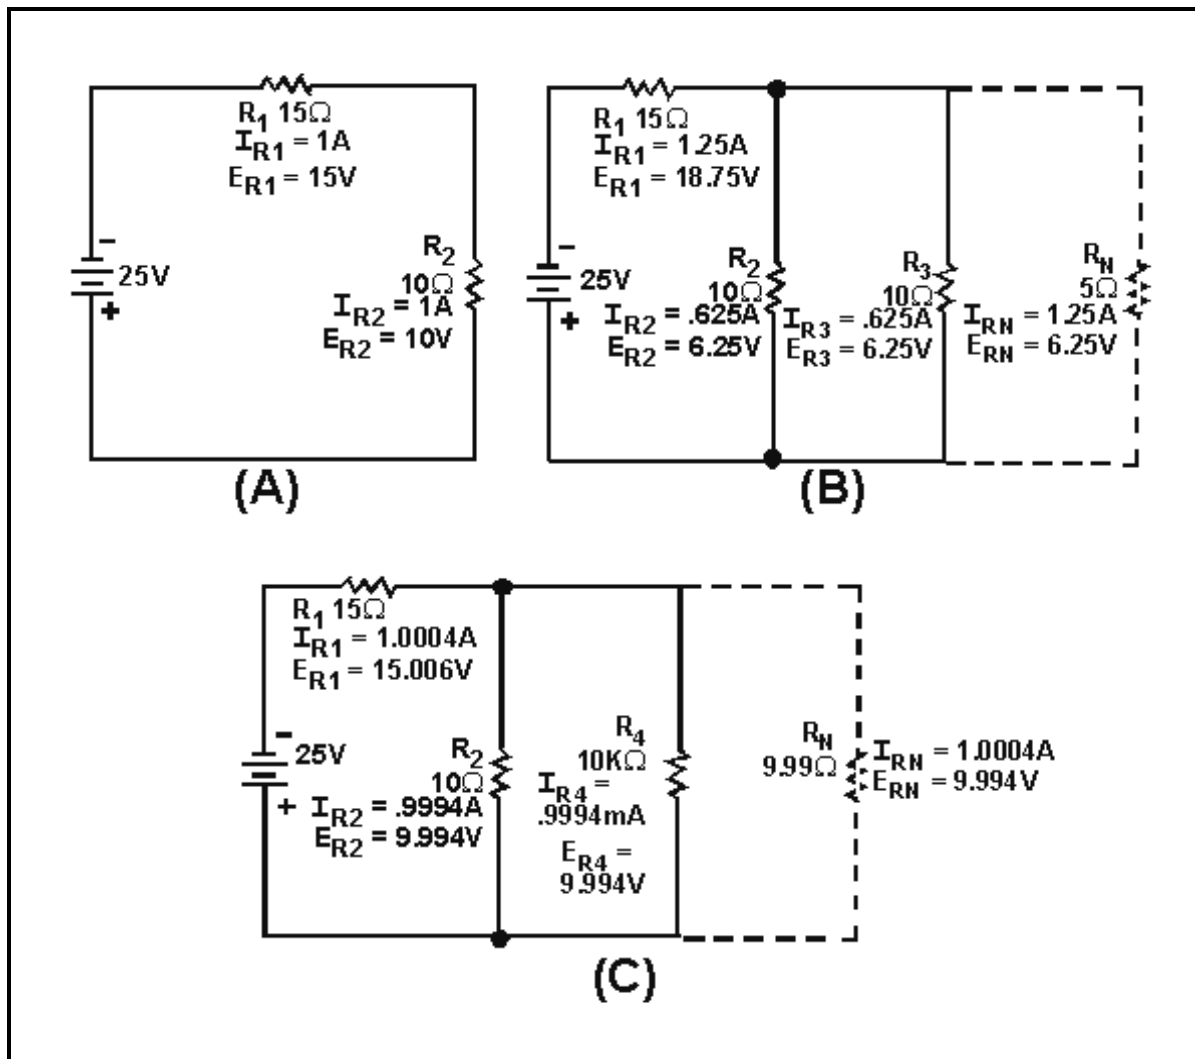

Figure 1-26.—The loading effect.
A voltmeter has an effect on the circuit being measured. This is called **LOADING** the circuit. Figure 1-26 illustrates the loading effect and the way in which the loading effect is kept to a minimum.
In figure 1-26(A), a series circuit is shown with  $R_1$  equaling 15 ohms and  $R_2$  equaling 10 ohms. The voltage across  $R_2$  ( $E_{R2}$ ) equals 10 volts. If a meter (represented by  $R_3$ ) with a resistance of 10 ohms is connected in parallel with  $R_2$ , as in figure 1-26(B), the combined resistance of  $R_2$  and  $R_3$  ( $R_N$ ) is equal to 5 ohms. The voltage across  $R_2$  and  $R_3$  is now 6.25 volts, and that is what the meter will indicate. Notice that the voltage across  $R_1$  and the circuit current have both increased. The addition of the meter ( $R_3$ ) has loaded the circuit.
In figure 1-26(C), the low-resistance meter ( $R_3$ ) is replaced by a higher resistance meter ( $R_4$ ) with a resistance of 10 kilohms. The combined resistance of  $R_2$  and  $R_4$  ( $R_N$ ) is equal to 9.99 ohms. The voltage across  $R_2$  and  $R_4$  is now 9.99 volts, the value that will be indicated on the meter. This is much closer to the voltage across  $R_2$ , with no meter ( $R_3$  or  $R_4$ ) in the circuit. Notice that the voltage across  $R_1$  and the circuit current in figure 1-26(C) are much closer to the values in 1-26(A). The current ( $I_{R4}$ ) through the meter ( $R_4$ ) in figure 1-26(C) is also very small compared to the current ( $I_{R2}$ ) through  $R_2$ . In figure 1-26(C) the meter ( $R_4$ ) has much less effect on the circuit and does not load the circuit as much. Therefore, a voltmeter should have a high resistance compared to the circuit being measured, to minimize the loading effect.